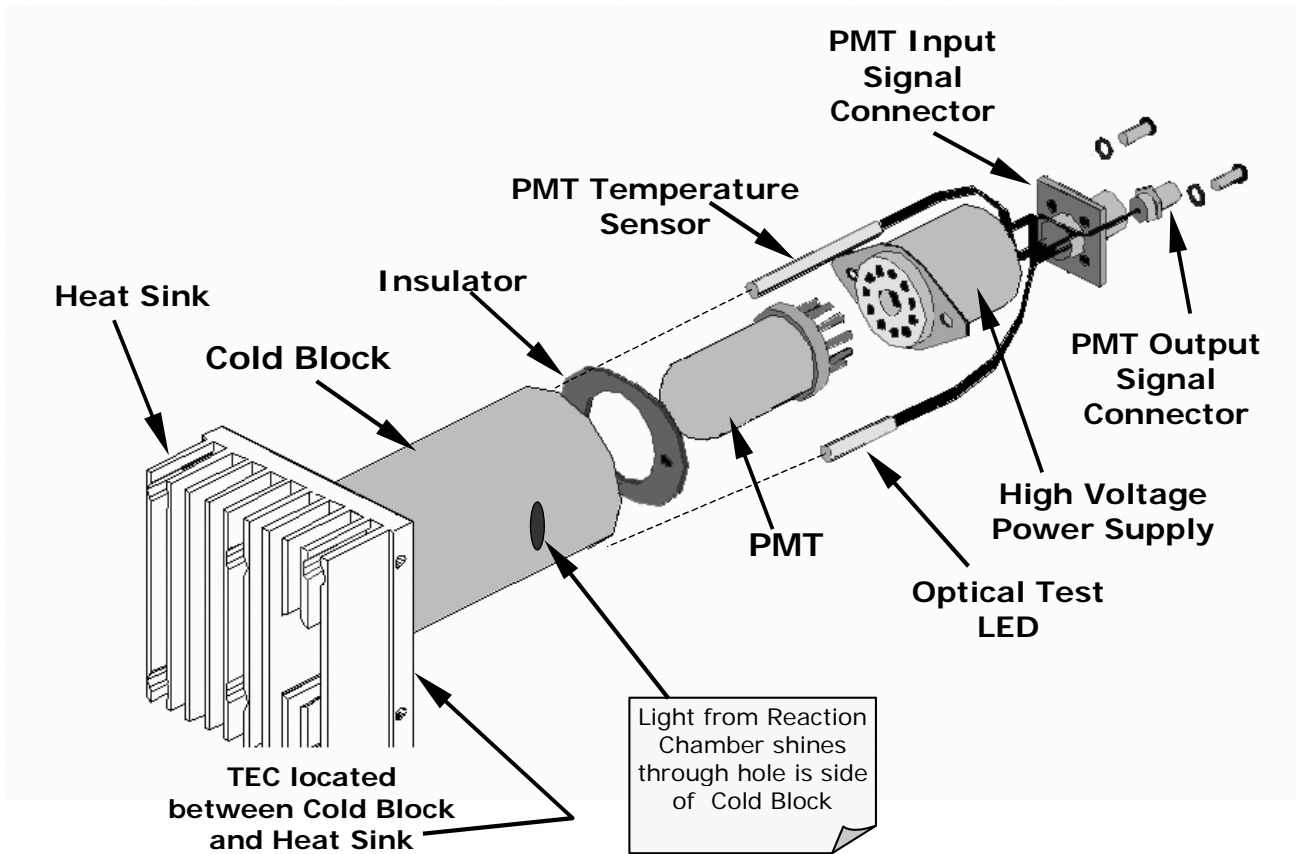

Figure 10-14: PMT Assembly
- Figure 10-14 shows an exploded view of the PMT Assembly
The PMT is housed inside the PMT module assembly (Figure 10-14). This assembly also includes the high voltage power supply required to drive the PMT, an LED used by the instrument's optical test function, a thermistor that measures the temperature of the PMT and various components of the PMT cooling system including the thermo-electric cooler (TEC).